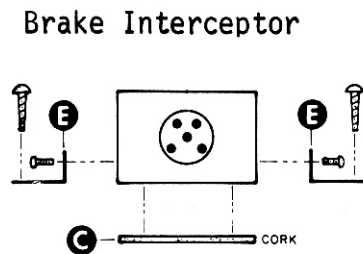

Fig. 1
1. Mount the small angle brackets on the Brake Interceptor. (See "E" on Fig. 1).
2. Apply the cork insulation to the backside of the Brake Interceptor. (See "C" on Fig. 1).